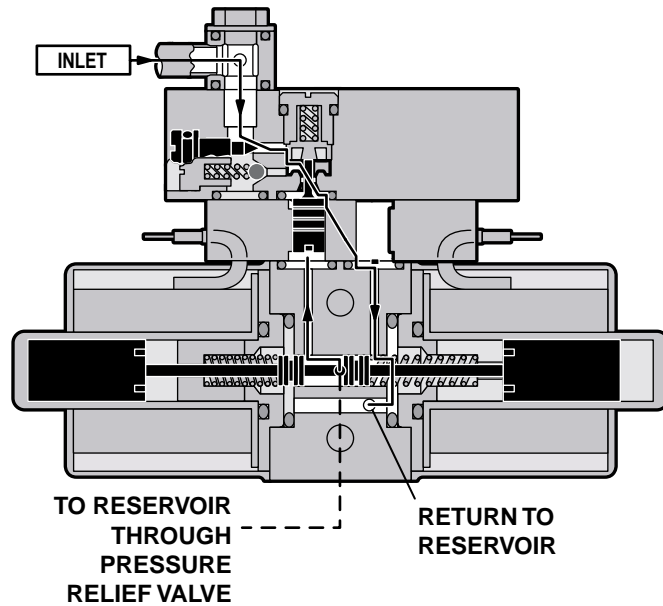

**Figure 1-14. Single Action Brake Cylinder**
5. Brake Cylinders - The brake cylinders are single action type similar to the elevation cylinder. The movable piston's ram is connected to a brake pad. See figure 1-14. Oil pumped into the top of the cylinder pushes the piston down raising the table base off its casters. An internal return spring on the bottom of the piston, pushes the piston up to return the oil through the mini-valve to the reservoir.